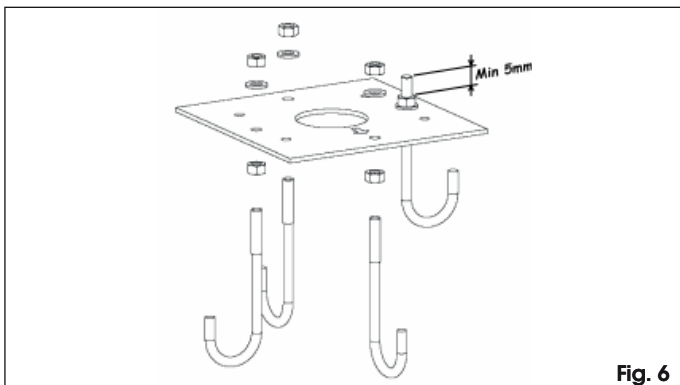

Fig. 6
1. Assemble the foundation plate as shown in Fig.6.